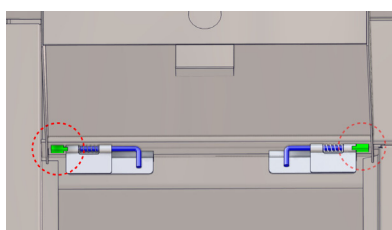

Fig. 27: Left - right hinge leaves
4. To re-attach the door, push in the hinge pins and fit the top corners of the knee panel door onto the left and right hinge leaves (Fig. 27 - circled in red). When the door is refitted, release the hinge pins to secure the door to the sink.